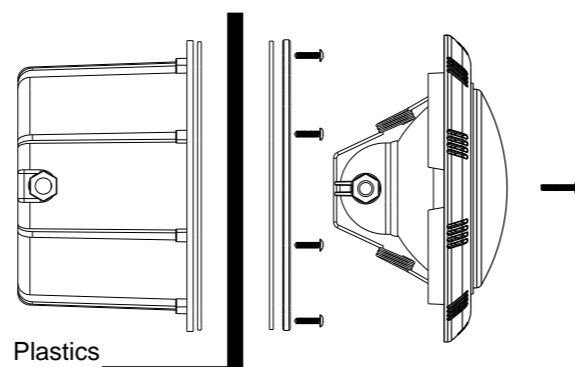

Figure 3.
- 2) Connect conduit to midst of Mounting Spacer (left of Bracket), see Figure 3.